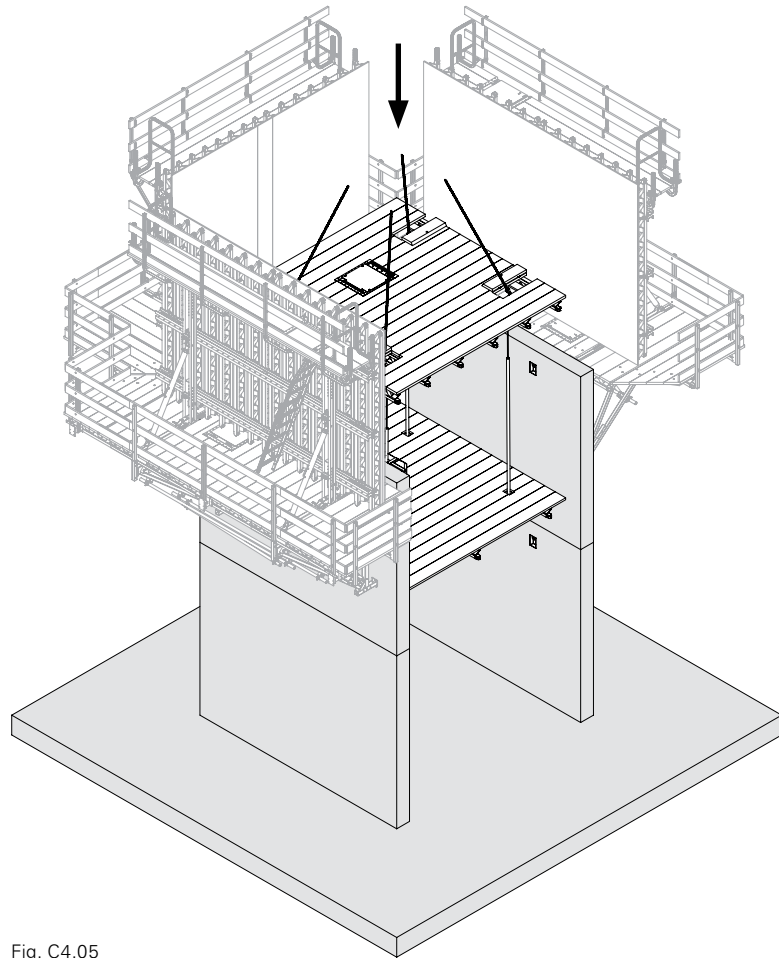

Fig. C4.05
6. Check it is the correct support for the Shaft Platform and secure against slipping. See "Checking the support" on page 60. (Fig. C4.05)